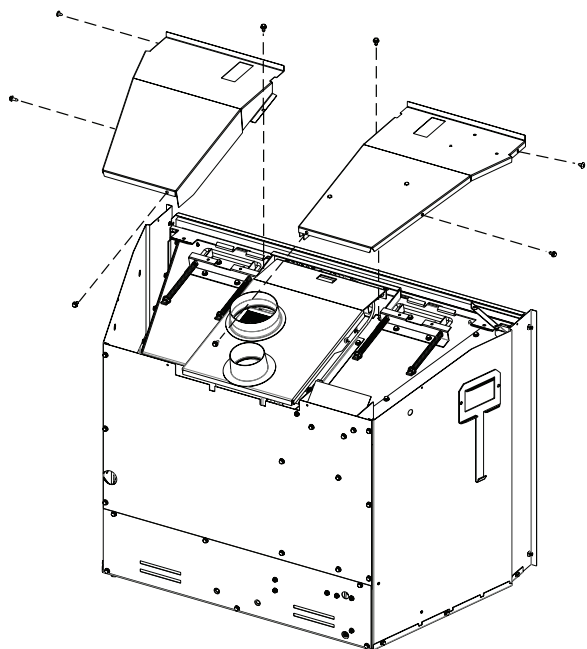

Figure 1
2. Remove 4 screws and remove outer top, repeat for other side. Set parts aside, they will be re-used. **See Figure 1.**